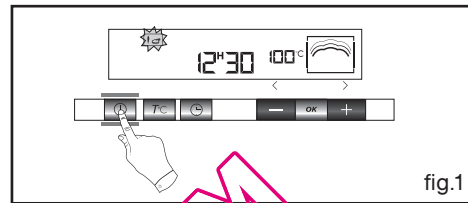

fig.1
Press and hold the \odot touch control for a few seconds until the display is flashing (fig.1), then release.
Press once on the ① touch control to select the  function (fig.1). Press the **OK** button a second time to access the cooking time settings.